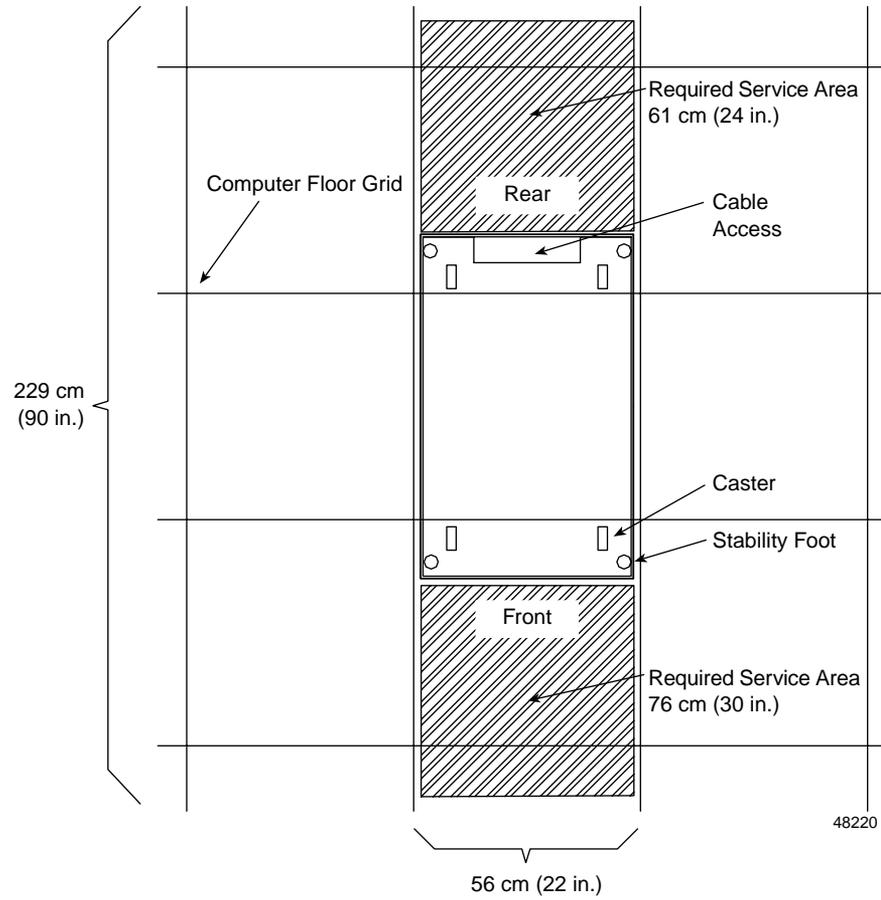

Figure A-3 TP9400 Area Requirements
- Sufficient space to install and service the rack and components (Figure A-3).